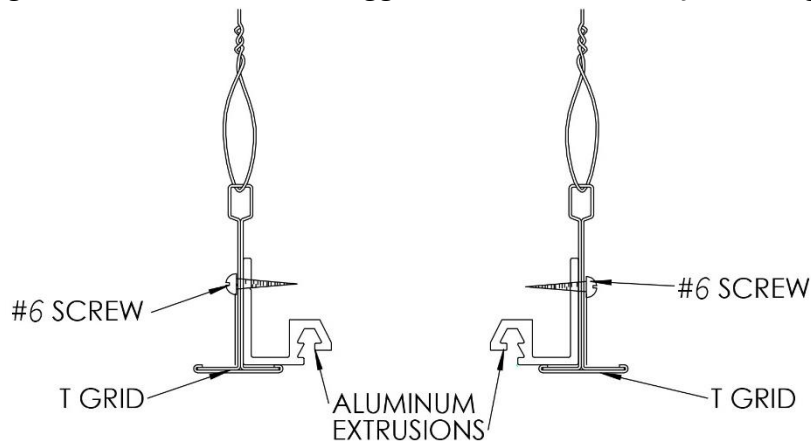

FIGURE 1
1. Position aluminum extrusions on the inside lip of the "T" grid as shown and attach with #6 self-drilling screws 18" on center (stagger seams, as necessary). **See Figure 1**